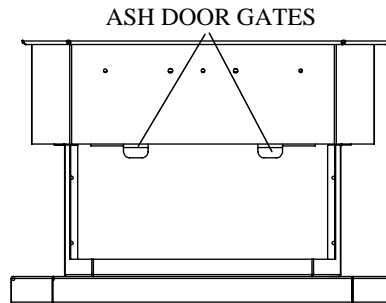

Figure 27. Ash gates for a **KOZI** pellet stove.
6. If your unit is equipped with the large ashtray, open the ashtray slightly and pull on each ash gate (Figure 27) until the ash falls from the burn chamber into the ashtray. Do not pull the ash gates too far as they may fall out. Sweep remaining ashes into the ashtray. For models equipped with the small ashtray (KSH series & Model 100 Insert) turn the 2 coil